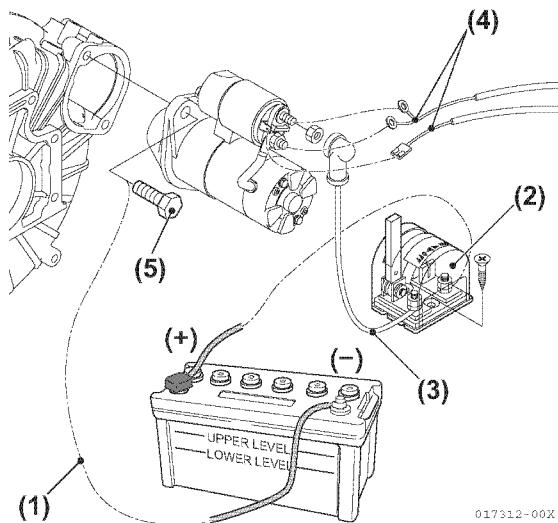

Figure 10-3
1. Disconnect the negative (-) battery cable (**Figure 10-3, (1)**) and turn the battery master switch OFF (if equipped) (**Figure 10-3, (2)**).
2. Disconnect positive (+) cable (**Figure 10-3, (3)**) and primary wires (**Figure 10-3, (4)**).
3. Remove bolts (**Figure 10-3, (5)**) securing the starter motor to the flywheel housing.